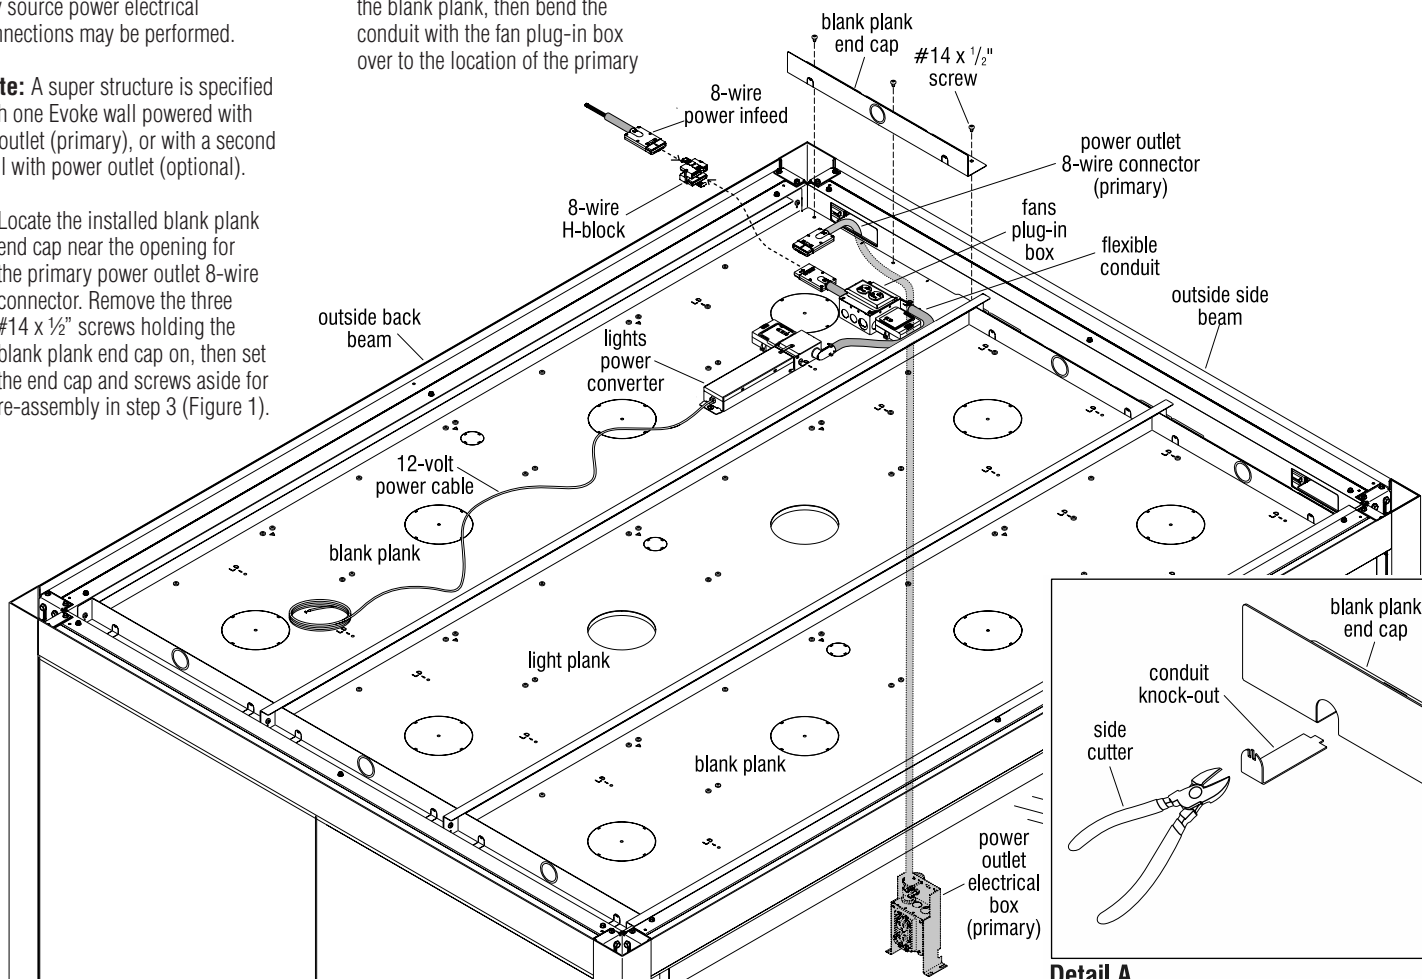

Figure 1
1. Locate the installed blank plank end cap near the opening for the primary power outlet 8-wire connector. Remove the three #14 x 1/2" screws holding the blank plank end cap on, then set the end cap and screws aside for re-assembly in step 3 (Figure 1).
2. Assure that the non-insulated panel shell was previously removed from Evoke panel(s) with a power outlet (if not, see page 40). At the wall frame with the primary power outlet and panel removed, locate the 8-wire modular connector end of the primary power outlet. Route the modular connector and flexible conduit up through the horizontal panel frame cut-out and through the top beam side cut-out and onto the blank plank (Figure 1).
power outlet 8-wire power connector and in position as illustrated (Figure 1).
4. Take the blank plank end cap in hand and orient it as it was removed in step 1, over the location where the conduit from the primary power outlet 8-wire power connector. Identify the conduit knock-out that the conduit can pass through when the blank plank end cap is re-installed. Use a side cutter and remove the appropriate knock-out then re-install the end cap to capture the conduit, using the #14 x 1/2" screws removed in step 1 above (Figure 1 & Detail A).
5. With the electrical control harness assembly in position on top of the blank plank, locate the 12-volt power cable from the end of the lights power converter and route the wires toward the grommet at the other end of the blank plank and coil the remaining cable (Figure 1).
6. Plug the modular connector end of the fans plug-in box into an 8-wire H-block, then plug a 8-wire power infeed connector into the H-block and set into position on top of the fan ceiling plank for future connection to the building power source by the electrician following guidelines at the end of this section (Figure 1).